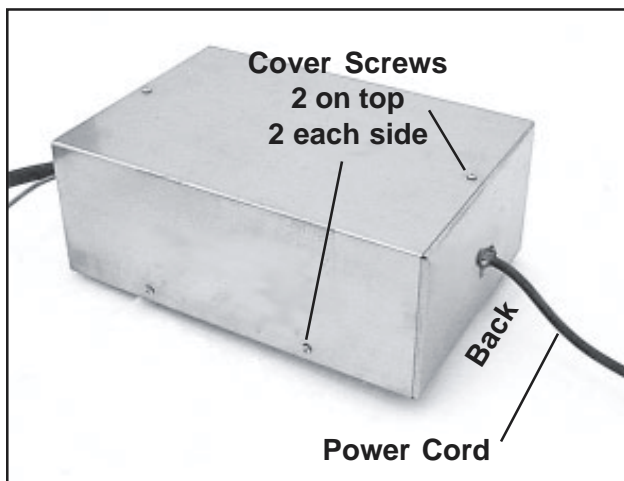

Figure 121. Electrical Box Cover Screws & Power Cord
6. With a Phillips screwdriver, remove the six screws that hold the box cover in place (Figure 121) and lift off the cover.
9. With a Phillips screwdriver, remove the six screws that hold the box cover in place (Figure 121) and lift off the cover.